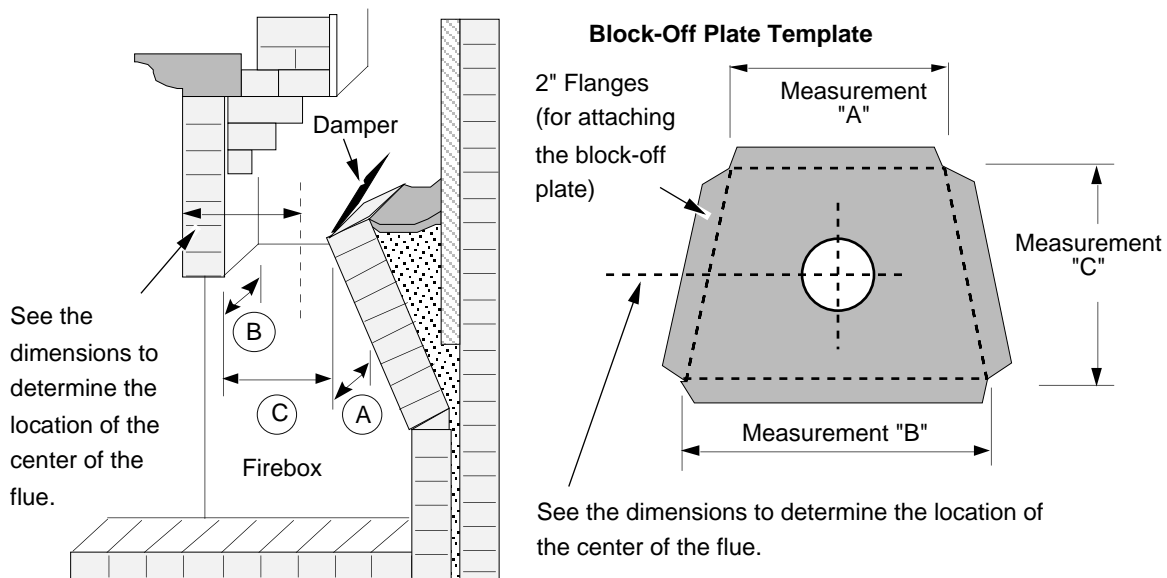

Figure 6
- 1 Determine a location for the block-off plate at the top of the firebox below the damper area (make it high enough to allow installation of the connection pipe). The location should be level and in an area where it can be mounted easily. Measure the width at the rear ("A") and front ("B") of the firebox at the height where the block-off plate will be installed (see Figure 6). Then measure the depth of the location where the block-off plate will be installed ("C").